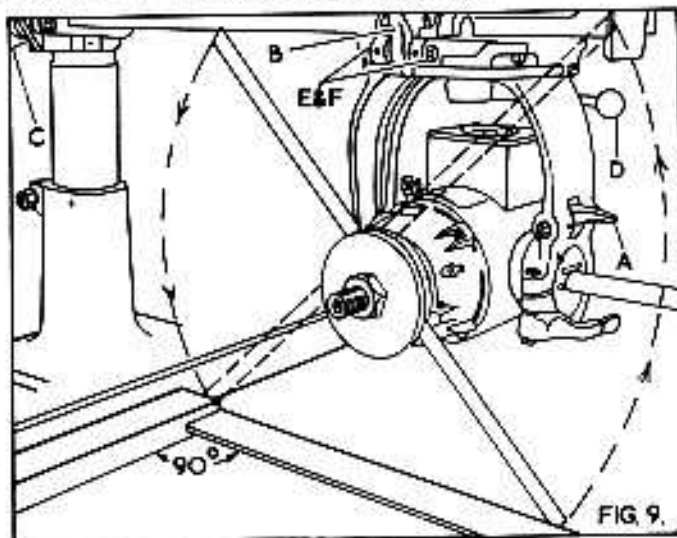
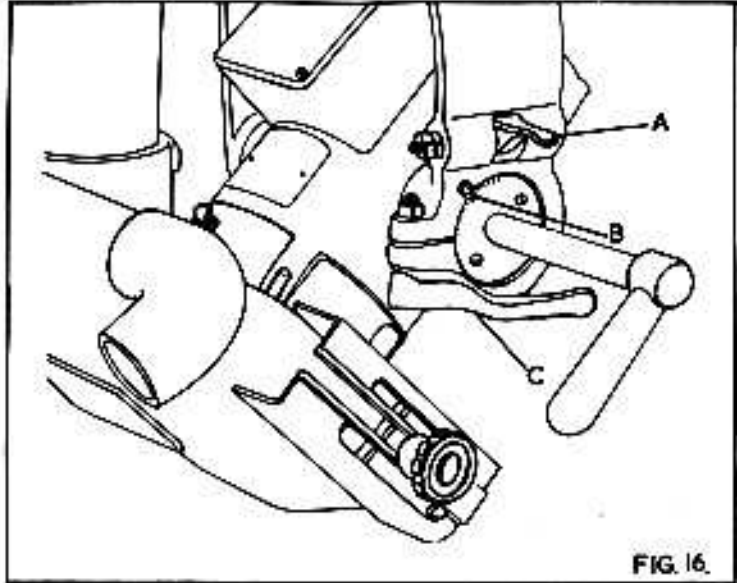

FIG. 9.
FIG. 16.
2. Ensure the motor locating latch "A" in Fig. 9, the stirrup locating latch "B" and the carriage locking screw "C" in Fig. 16 is securely locked.
4. Lift arm locating latch "C" in Fig. 9 and swing arm to extreme ends of the table checking that clearance between rod and table remains constant.
To check this alignment place a steel rule or some other similar straight edge between the saw flanges as shown in Fig. 9 and a steel square against the fence. Rotate the steel rule from front to rear. If adjustment is necessary loosen stirrup locking handle "D", and disengage the stirrup locating latch "B", set correctly, then relack in position with lever "D". Adjust the aerotight nuts "E" and hexagon locknuts "F" until the latch "B" locates accurately in the slot in the stirrup.
The motor swivels within the stirrup through 90°. The principle angles are located by a tapered latch "A" in Fig. 16.